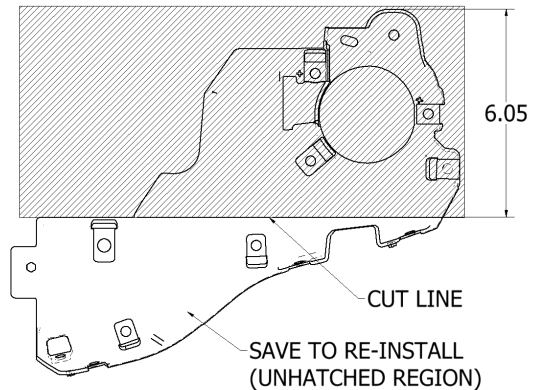

FIGURE 2
- E. Cut the top portion of the bracket off as shown in Figure 2